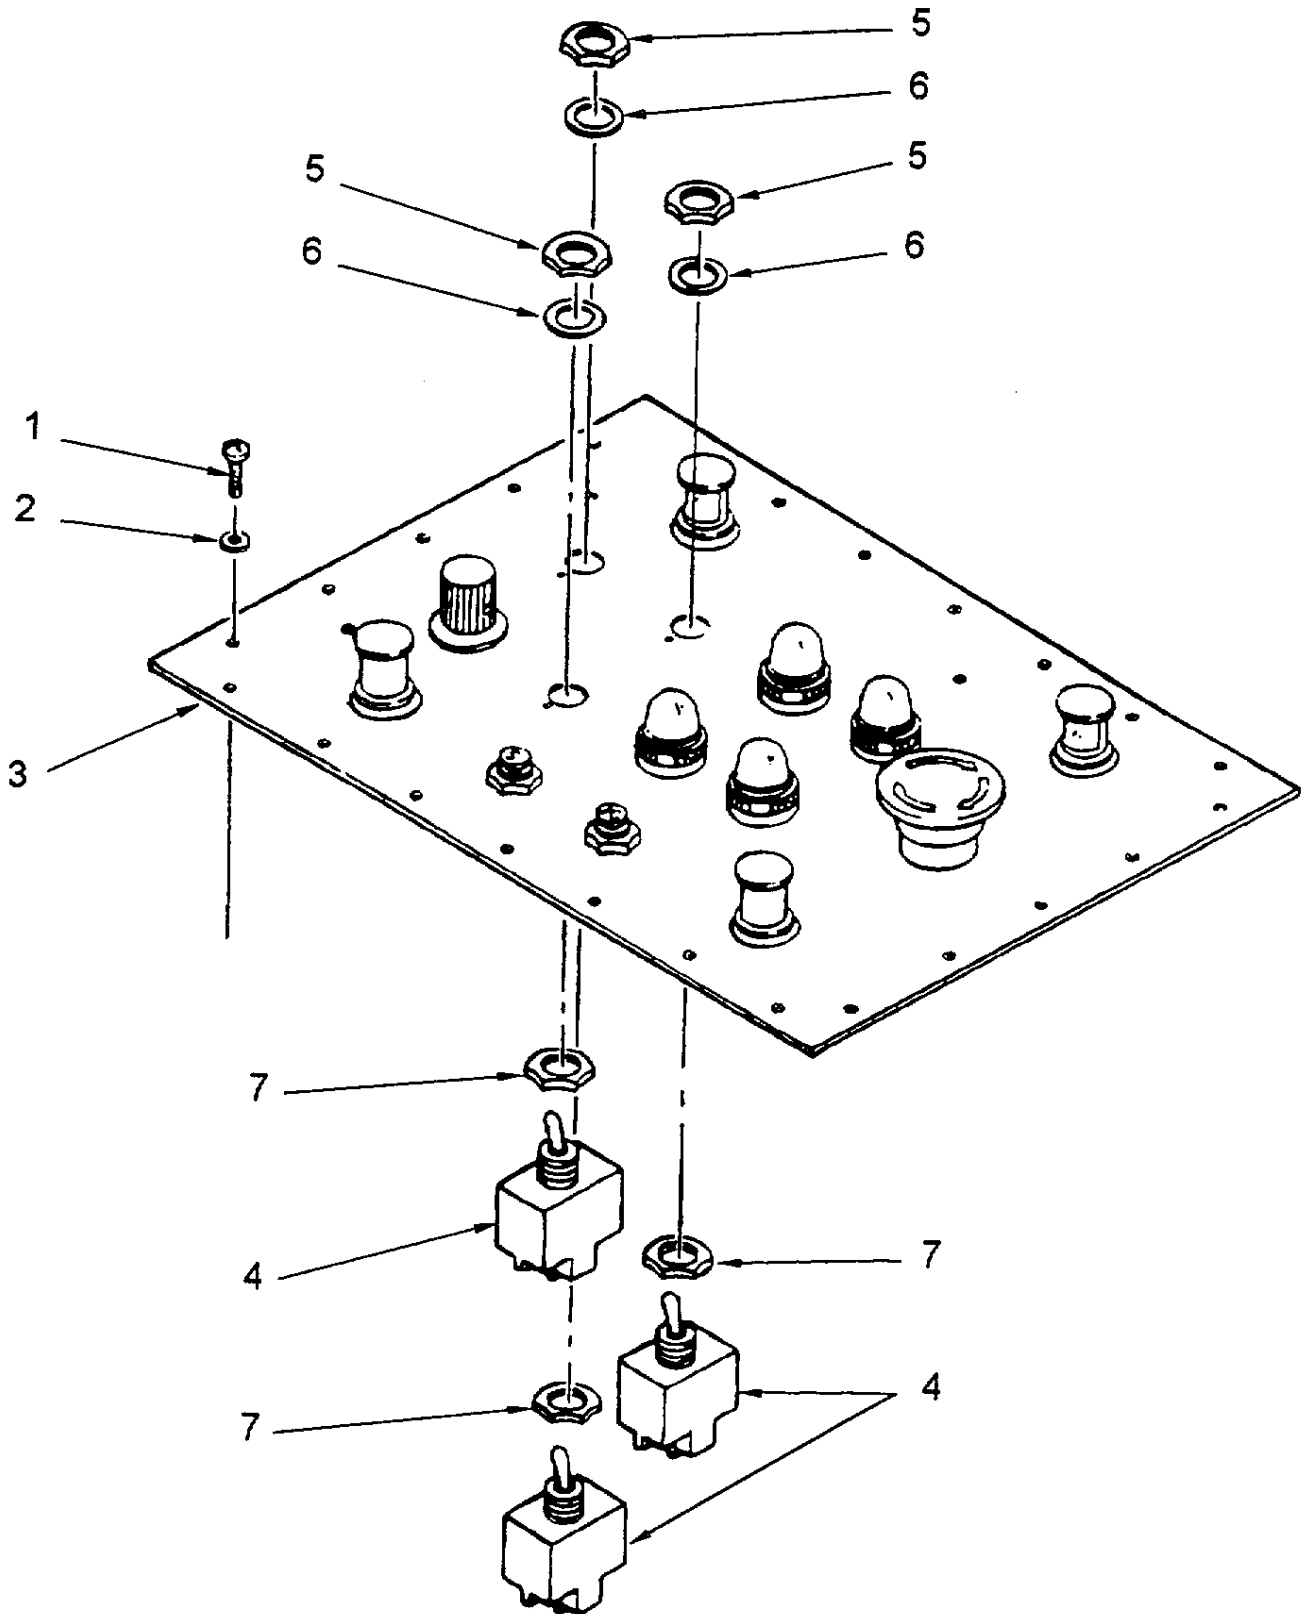

Figure 5-13. Control Panel Toggle Switch Replacement
5.7.4 Replace Control Panel Toggle Switches. (Refer to figure 5-13.)